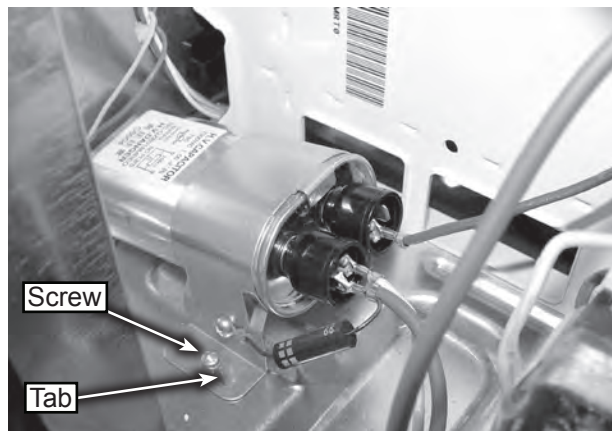

Figure 1
5. Remove one screw and disengage the capacitor mounting bracket from the tab on the microwave base, see figure 1.